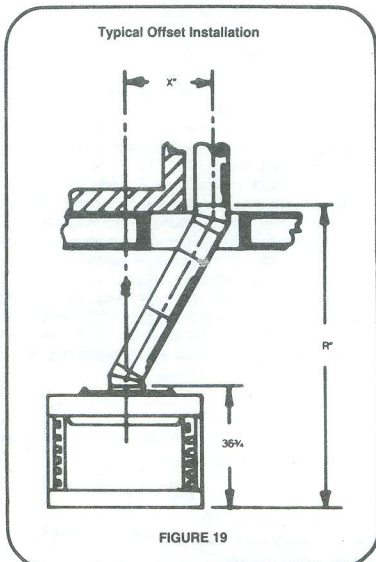

FIGURE 19
- L. Locate the center point of the flue on the ceiling with a plumb bob as shown on page 3. The center of the correct location for the ceiling opening will be the amount of the offset dimension away from the ceiling nail. See Figure 19 on page 6. The "X" dimension in the drawing is the amount of the offset. Be sure to consider the direction that your offset will incline.